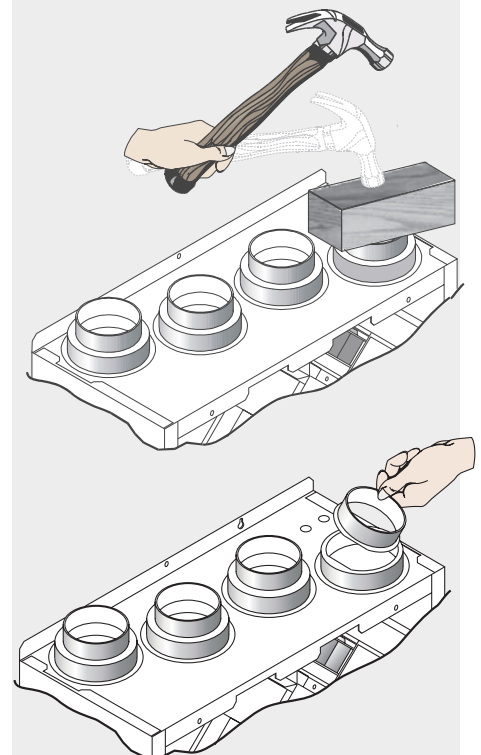

Figure 2
- 4.3.2 The centre part of the spigot can easily be removed by placing a flat piece of wood (or similar) over the centre part and applying a sharp tap with a hammer (see Figure 2).